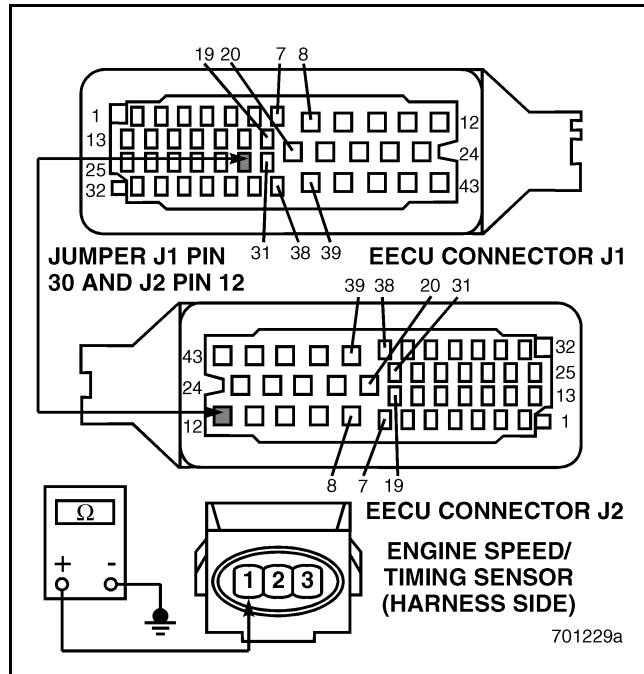

Figure 363
4. Check for continuity between RPM/TDC Sensor harness connector pin 1 and a good ground (see Figure 363).